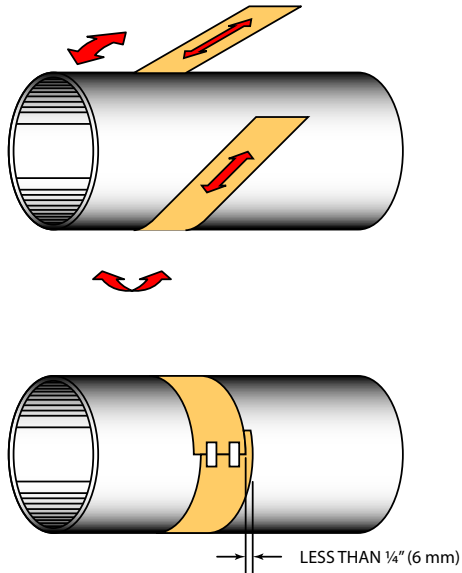

Figure 18: Paper template alignment
1. Wrap the paper around the pipe in the manner shown in *Figure 18*. Align the paper ends to within 1/4 inch (6 mm).